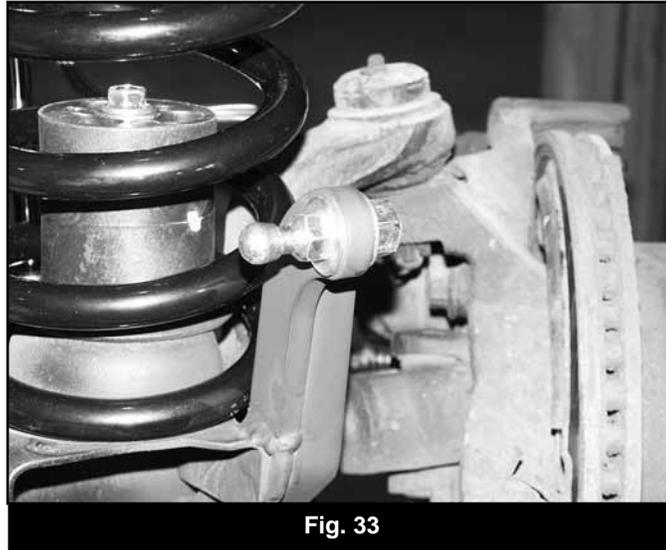

Fig. 33
81. Install the provided disconnect ball studs (01302) in the mounts so that the ball portion points toward the center of the vehicle (Fig 33). Install the stud with a 1/2" lock nut and two 1/2" SAE washers (BP 718), one on each side of the mount. Torque stud to 60 ft-lbs.